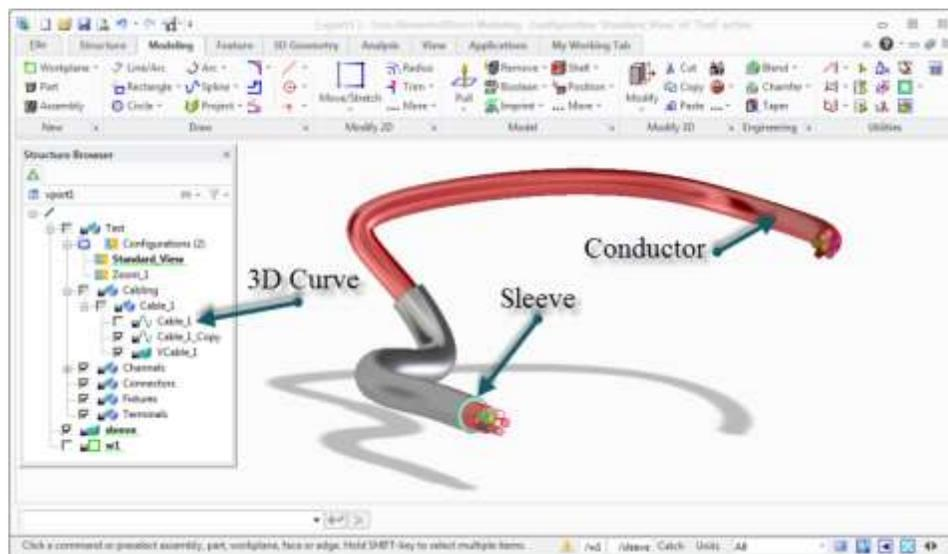
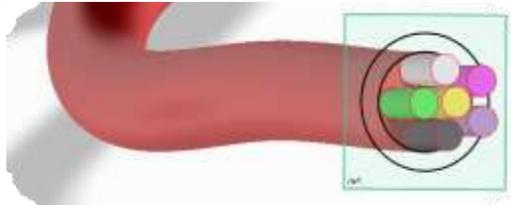

Figure 1. A sleeve added to a conductor using 3D Curve.
Figure 2. Sleeve profile with gap.
Periodically a protective wrapping or sleeve must be applied to a cabling conductor for visualization and placement purposes. However, with the current Cabling module, you cannot automatically add geometry along the length of an existing conductor. This article shows how to manually construct a sleeve along an existing conductor using its 3D Curve (Fig. 1).
3. Create the sleeve profile geometry. For example, in Fig. 2, the profile was created at the end point and then modified after the sleeve was created. We did this to add a small gap distance from the end as shown in Fig. 1 above.